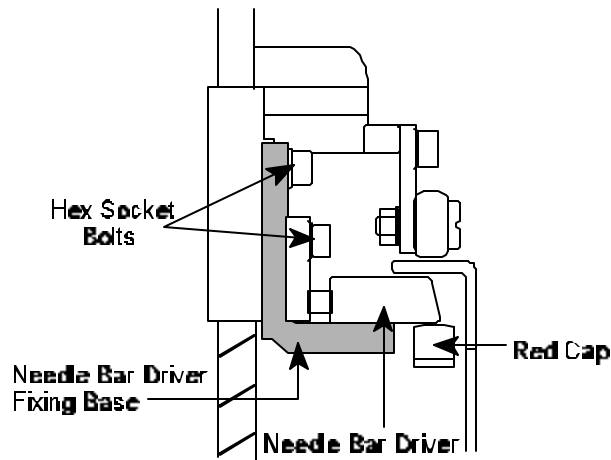

Figure 4
10. **Using** a 3 mm Allen Wrench, **remove** 2 hex socket bolts securing the Needle Bar Driver Fixing Base. See Figure 4.